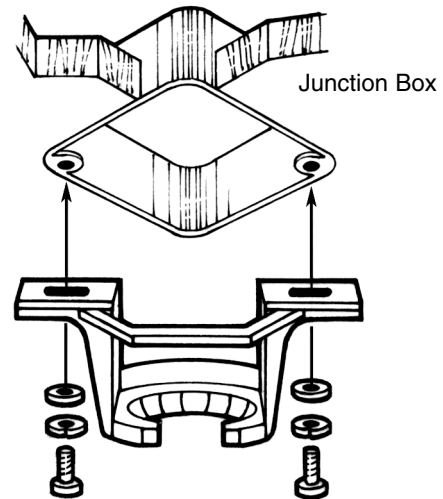

Fig. 2
Install the mounting bracket to the electrical junction box in the ceiling. Using two (2) machine screws, two (2) washers, and two (2) lockwashers (*see figure 2*).